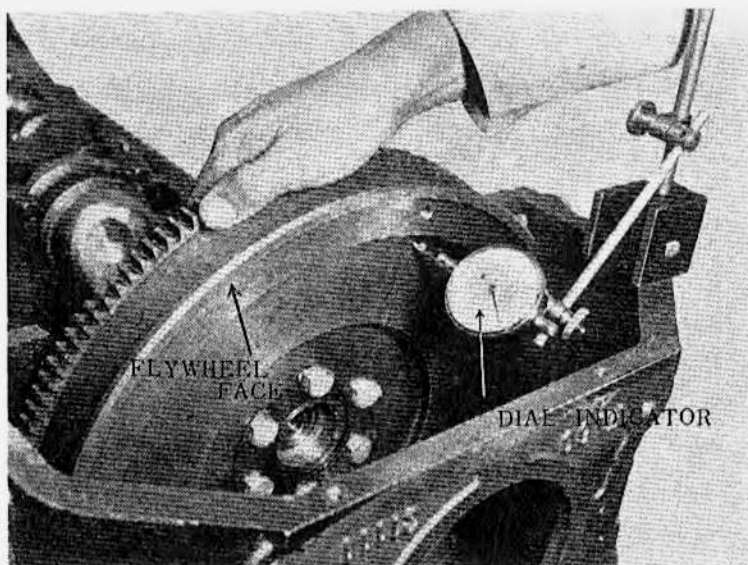

Figure 87 - Checking Flywheel Runout
(1) Clean the mating flanges of flywheel and crankshaft carefully and make sure there are no burrs on either mounting face.
(2) Place the flywheel in the clutch housing and position it so that the one evenly spaced dowel in crankshaft flange will enter the holes in the flywheel.
(3) Install the six bolts using new lock plates under each pair of bolts.
(4) Tighten bolts to 40~55 foot-pounds with a torque wrench.
(5) Mount a dial indicator on the clutch housing so that the button of the indicator will contact the machined surface of flywheel (Fig. 87), and check the flywheel runout.